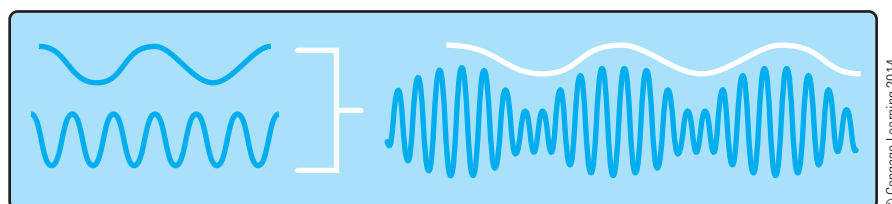

Figure 11-10 Amplitude modulation of wheel speed sensor signal with misadjusted wheel bearings.
An ABS wheel-speed sensor with too great an air gap will cause a problem in the ABS system because the amplitude of the signal is too low to be accurately measured. ABS systems can also detect loose wheel bearings or warped or bent tone wheels based on signal amplitude. These defects all may cause variation in the air gap throughout rotation or during cornering, which is detected as variation in the amplitude of the voltage produced by the sensor as the wheel is rotated (**Figure 11-10**). This variation in amplitude is also the fundamental of AM radio, which uses amplitude modulation (AM) to carry a signal.